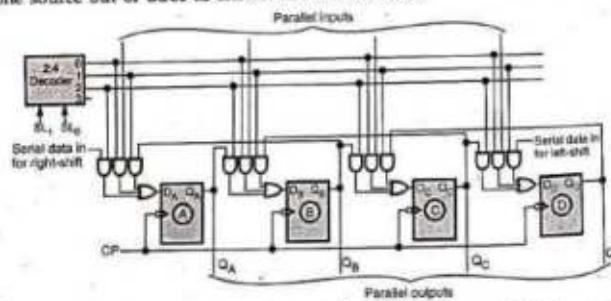

Fig. 5.8.14 4-bit bidirectional shift register with parallel load
- Fig. 5.8.14 shows bidirectional shift register with parallel load.
- As shown in the Fig. 5.8.14, the D input of each flip-flop has three sources: Output of left adjacent flip-flop, output of right adjacent flip-flop and parallel input. Out of these three sources one source is selected at a time and it is done with the help of decoder. The decoder select lines (SL1 and SL0) select the one source out of three as shown in the Table 5.8.4.